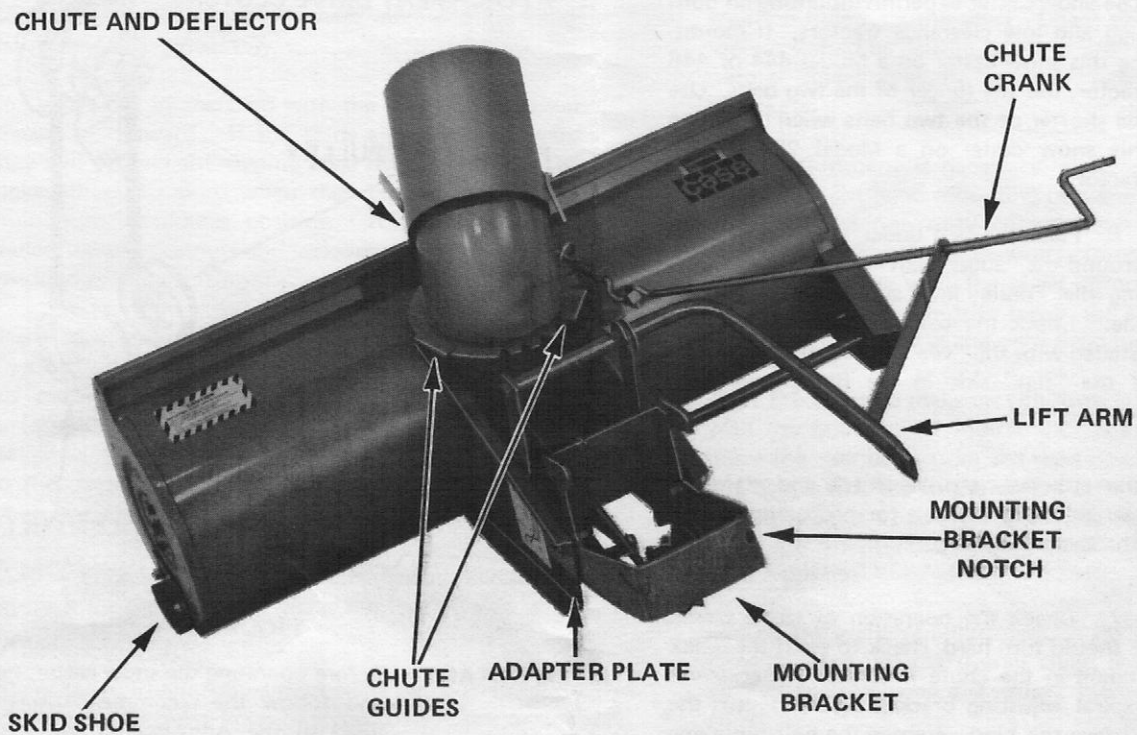

FIGURE 6
1. Position the Mounting Bracket between the Auger Adapter Plates as shown in Figure 6. Insert a spacer in each of the Adapter Plates. Bolt the Mounting Bracket to the Adapter Plates with the plain washers to the outside and lock nuts at the inside.
6. Remove the safety pins from the lift arm. With the plain washer located next to the cotter pin as shown in Figure 6, place the lift arm through the auger lift brackets.
11. Thread the handle end of the crank through the crank support and connect the block joint to the crank spiral using the plain washer and cotter pin provided. (See Figure 6.)